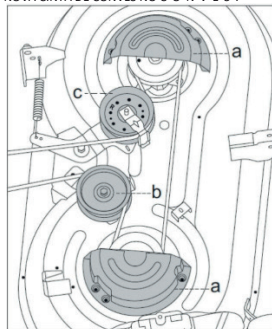

FIG.26
REMOVA AS DUAS TAMPAS PROTETORAS DA CORREIA (A, FIG. 26) REMOVENDO OS SEIS PARAFUSOS QUE AS PRENDEM À PLATAFORMA.
3. REMOVA A POLIA FIXA (B, FIG. 26) E A POLIA TENSORA (C, FIG. 26).